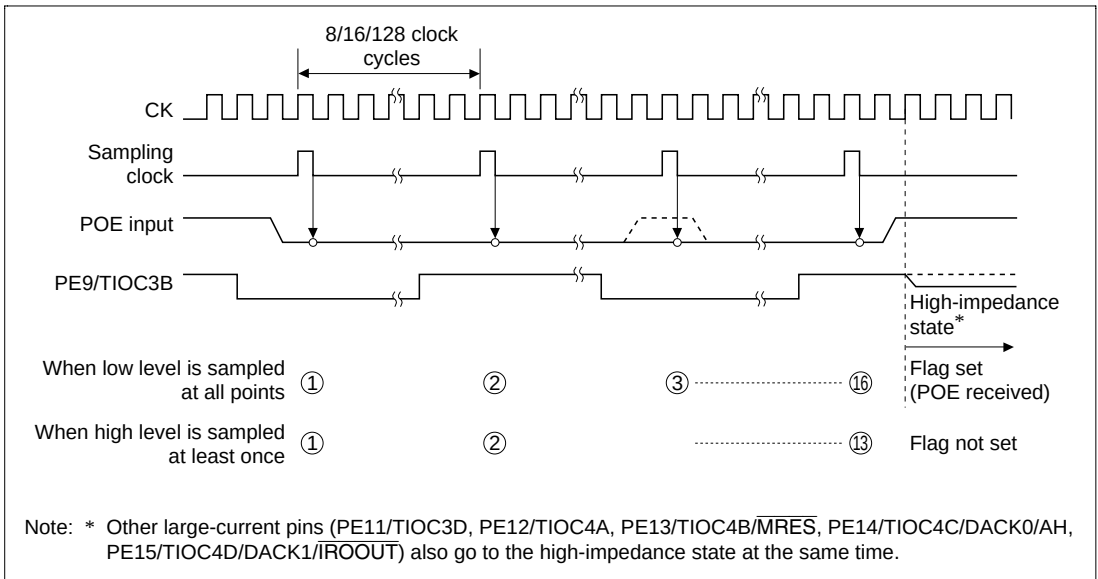

**Figure 12.126 Low-Level Detection Operation**
**Low-Level Detection:** Figure 12.126 shows the low-level detection operation. Sixteen continuous low levels are sampled with the sampling clock established by the ICSR. If even one high level is detected during this interval, the low level is not accepted.